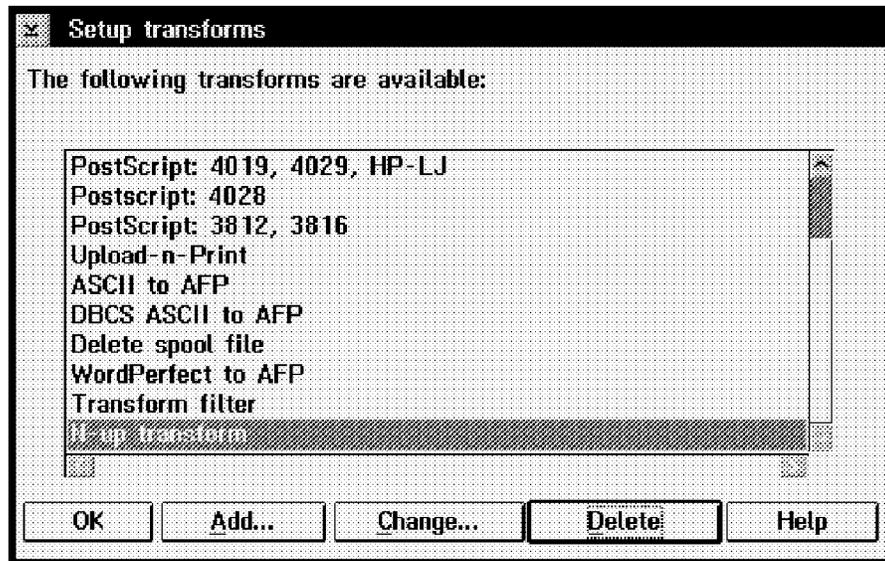

Figure 184. Setup Transforms Window
2. The Setup transforms window shown in Figure 184 will open. Select **Add...**